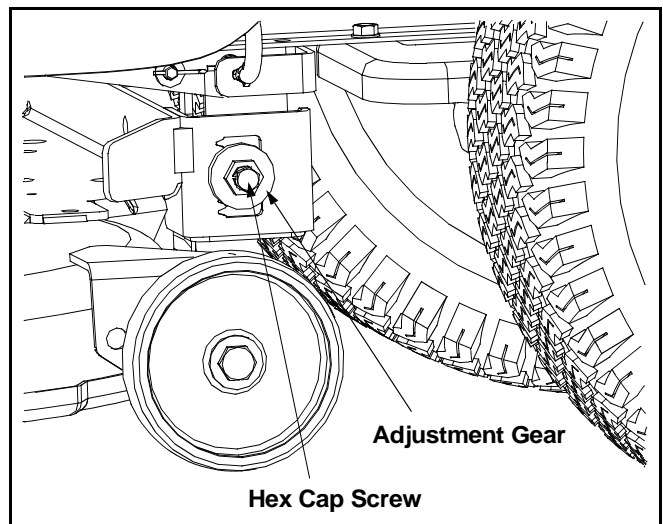

Figure 13
- Loosen, but do NOT remove, the hex cap screw on the left deck hanger bracket. See Figure 13.